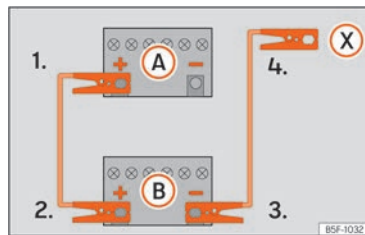

Fig. 222 Diagram of connections for vehicles without Start Stop system
4. *Vehicles without a Start-Stop system:* connect one end of the black jump lead to the negative terminal  of the vehicle providing the current  » Fig. 222.